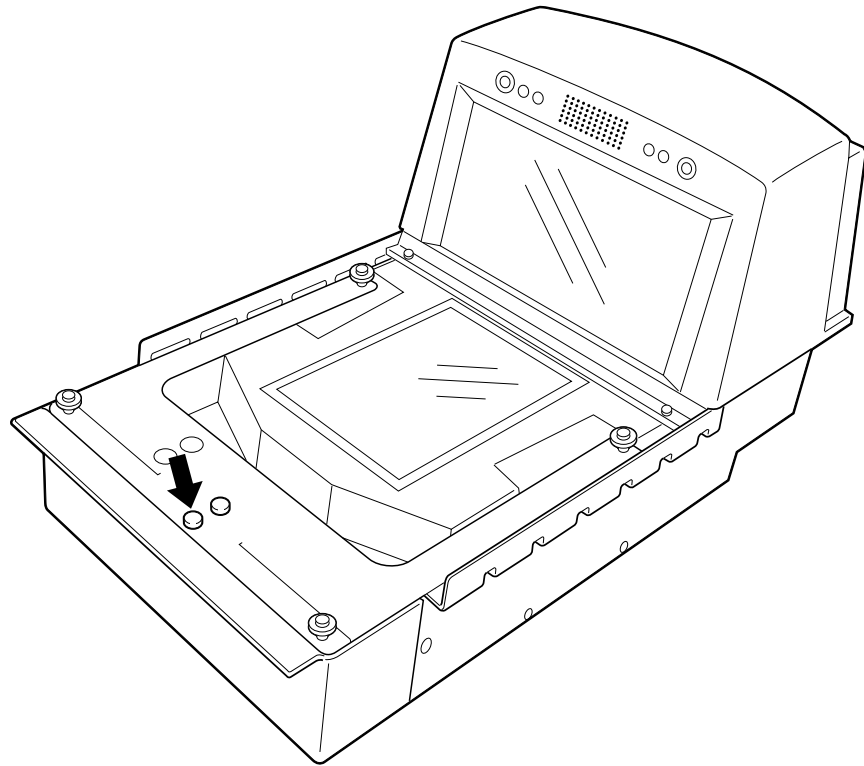

Fig.1 Location of bolt for cover the calibration button
- 2) Remove the bolt covering the calibration button. (see Fig.1)
2. Remove the bolt covering the calibration button. (See Fig. 1)